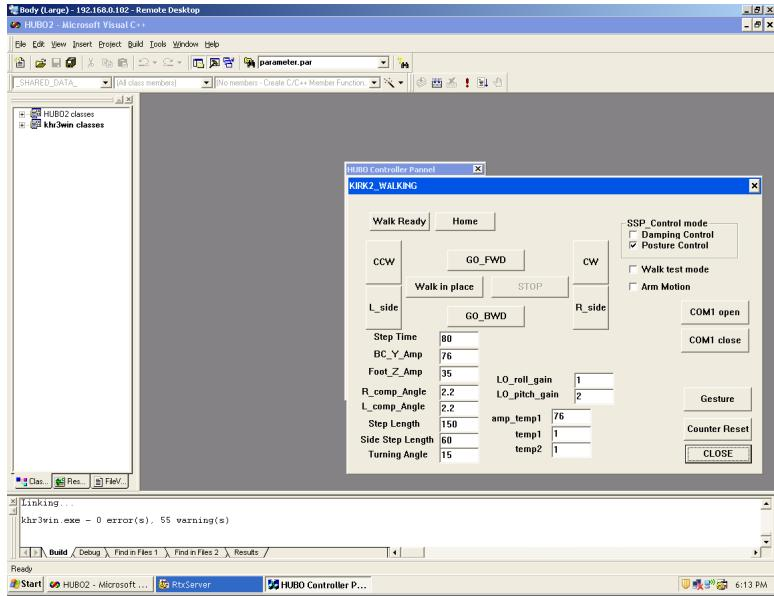

Figure 26: Kirk Walking Dialog Box
The *Kirk Walking* dialog box will appear, see Figure 26.
5.46 Click *Walk In Place* in the *Kirk Walking* Dialog box, Figure 26
5.47 Click *Stop* in the *Kirk Walking* Dialog box, Figure 26